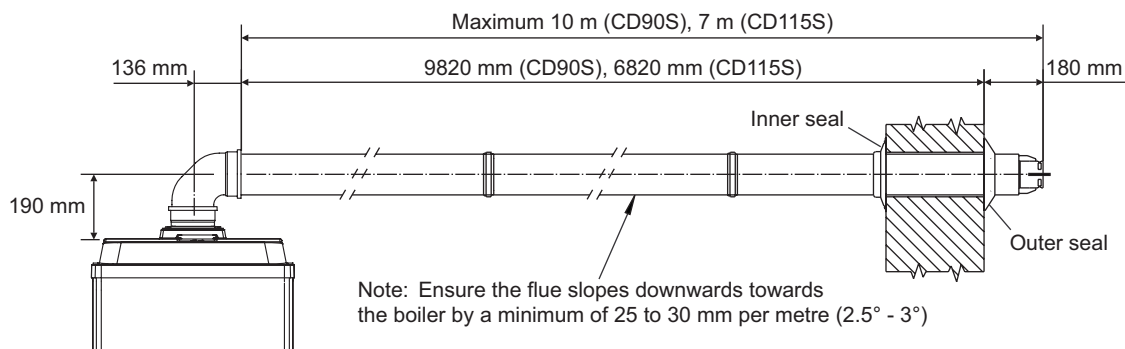

Fig. 20
**Extensions for horizontal kit -** The horizontal kit can be extended up to a maximum horizontal distance of 10 m (CD90S) or 14 m (CD115S) (Fig. 20), including the flue terminal and excluding the flue bend on the boiler (refer to Section 3.4).